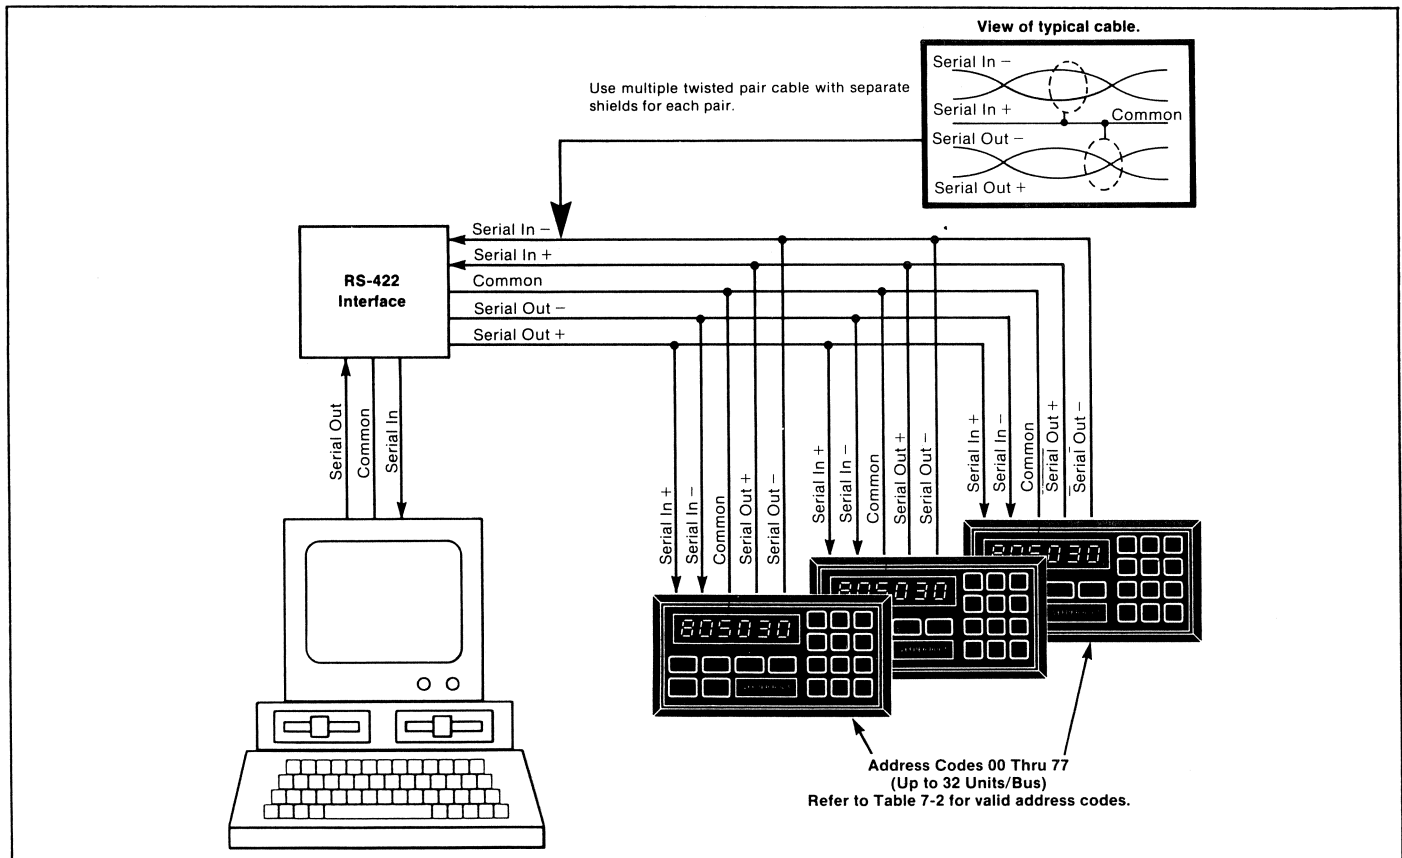

Figure 7-2. System Diagram
1. Connect one 7910 to a computer or a terminal via the RS-422 interface Use the diagram in Figure 7-2 as a reference for wiring.